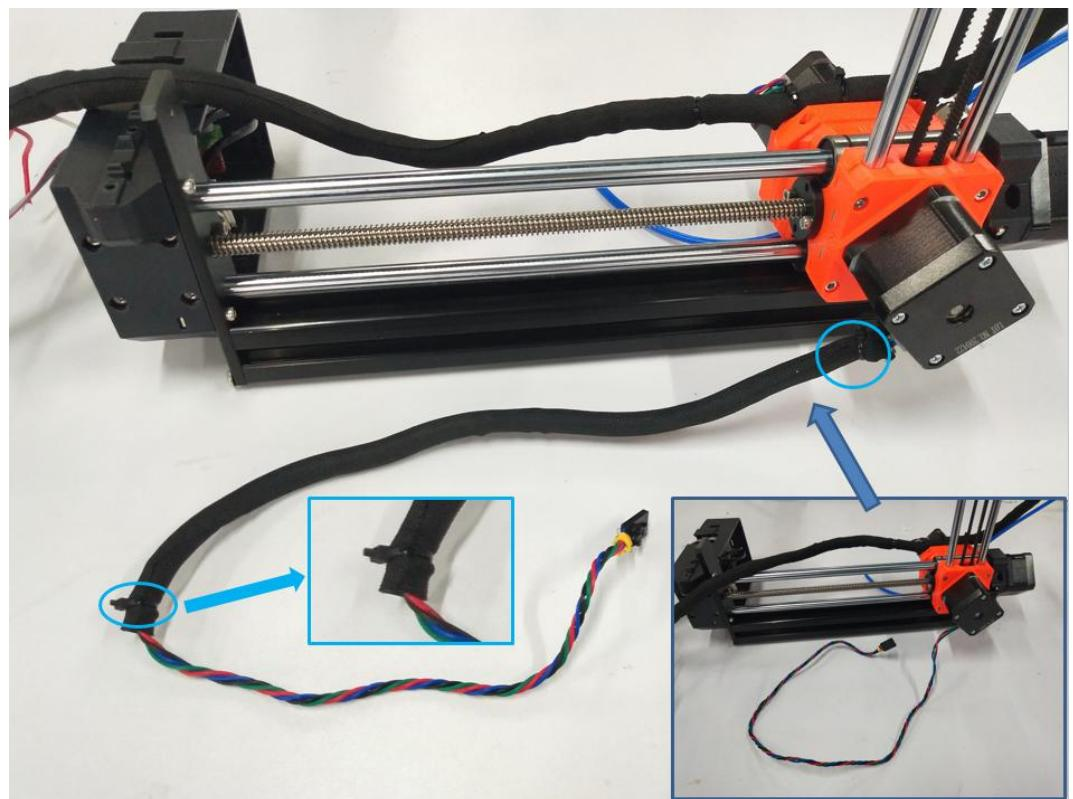

Figure 4.2.2
**Step 4-2-2:** As shown in Figure 4.2.2, wrap the X-axis motor cable with a wire harness tube, and tie a cable tie to each end of the wire harness tube.